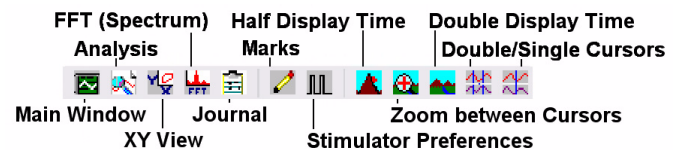

Figure NB-7-8: The **LabScribe** toolbar.
- Clicking the **Zoom between Cursors** button on the **LabScribe** toolbar (Figure NB-7-8 on page NB-7-7) to expand or contract the fifteen-second recording to the width of the **Main window**.
- 3 Click on the **Analysis window** icon in the toolbar (Figure NB-7-8 on page NB-7-7) or select **Analysis** from the **Windows** menu to transfer the data displayed in the **Main window** to the **Analysis window**.